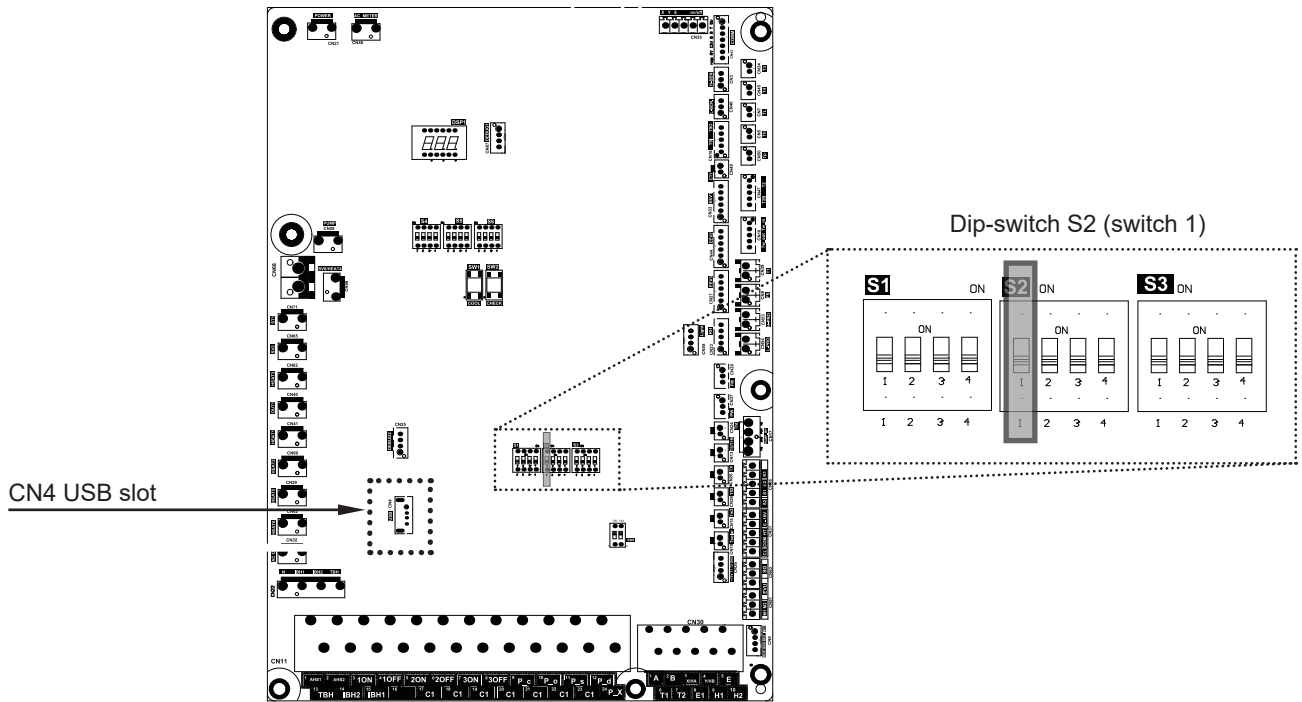

Figure 4. Outdoor PCB
3. **Make sure that DIP switch S2 (switch 1) is set to the ON position, see Figure 4.**
3. **Make sure that DIP switch S2 (switch 1) is set to the OFF position, see Figure 4.**
2. On the Outdoor PCB (Figure 4) insert the USB stick (provided) into the slot marked CN4 USB.